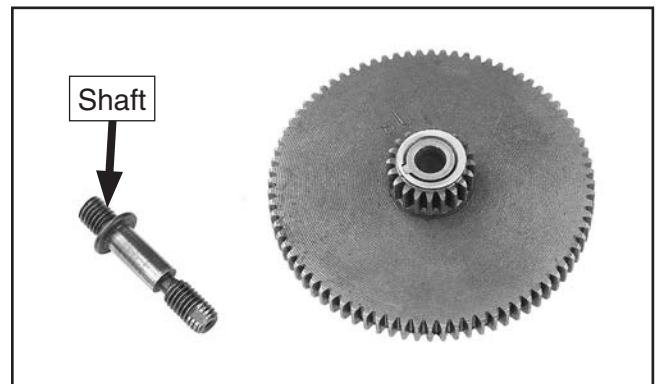

Figure 79. Shaft removed from 20T/80T gear.
- Remove gear shaft from middle C/D (20T/80T) gear (see **Figure 79**).